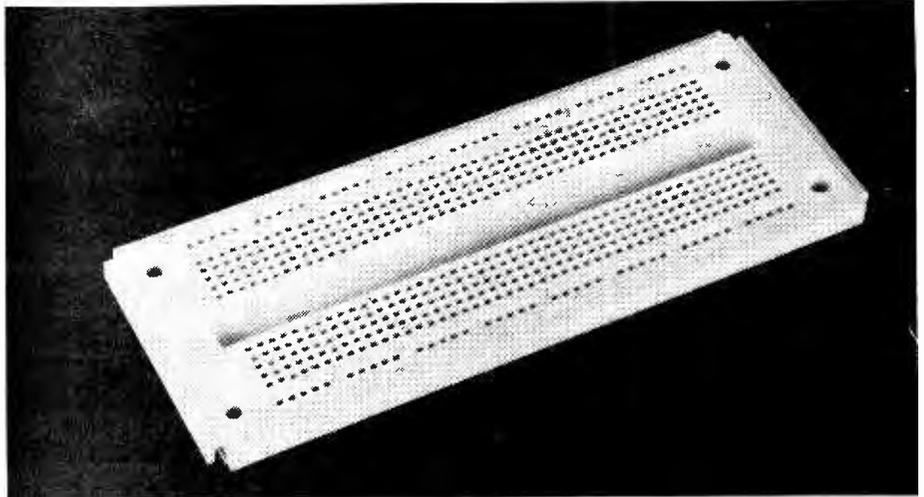

Fig. 6
**Experimenter**, see Fig. 6, type 300 measures 152 × 53mm, and type 600 measures 152 × 60mm. Both versions follow the connection system in Fig. 1(a), and are designed to accept 0.3in or 0.6in i.cs together with most discrete components. The layout has 470 main sockets in a 0.1in matrix organised as two columns, each of 47 rows containing five interconnected sockets.